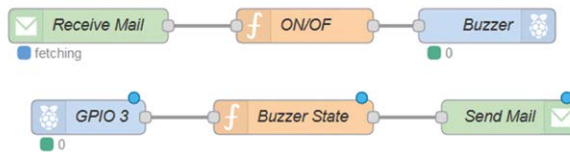

Figure 5.31 Flow program of the project
Node-RED flow program: Figure 5.31 shows the flow program. In this program 6 nodes are used: 3 nodes to receive the email and control the buzzer accordingly, and 3 nodes to send the state of the buzzer port to the specified email address.
- Join the nodes as in Figure 5.31, and click **Deploy**. To test the program, send command **ON** to email address dogantest99@gmail.com, and the buzzer should be activated. At the same time, the message **Buzzer is ON** will be sent to email address d.brahim@btinternet.com (you should use your own email addresses and passwords).